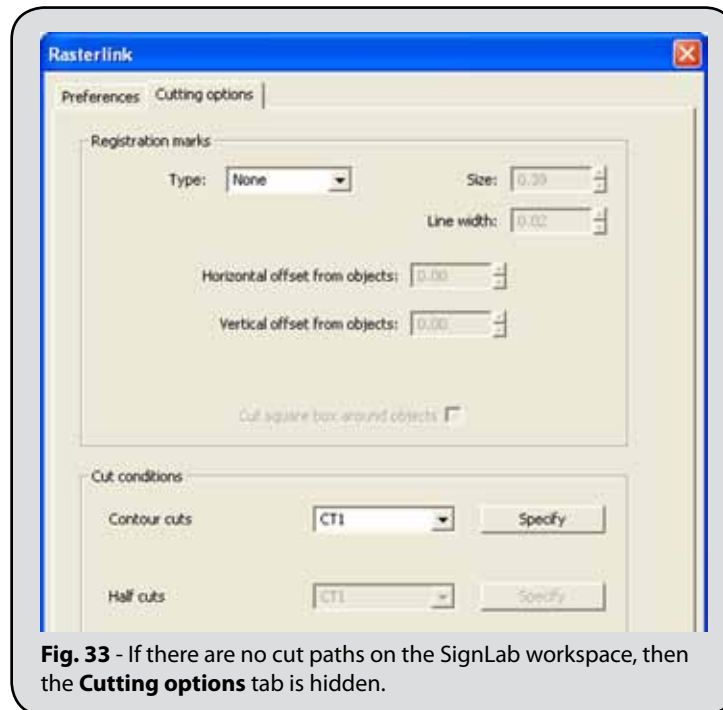

Fig. 33 - If there are no cut paths on the SignLab workspace, then the **Cutting options** tab is hidden.
8. If you are sending a print-only job, then please skip to step (15).
9. On the **Cutting Options** tab (Fig. 33), the registration marks can be set.